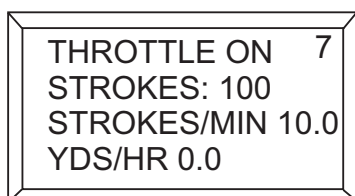

Figure 29. Strokes Per Minute Display
4. Scroll through the **digital readout screen** with the scroll switch to go to screen 7 (Figure 29). This screen will show the volume in strokes per minute.